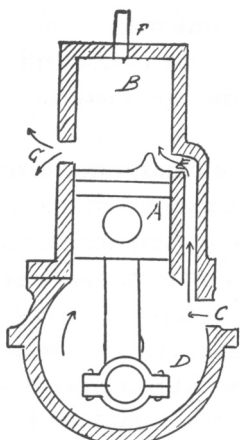
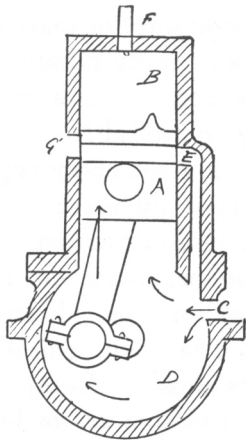
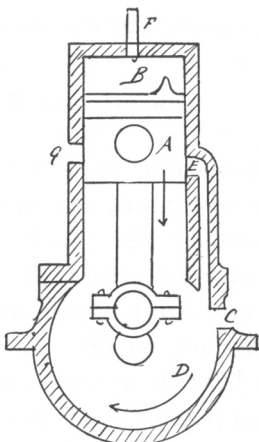

Fig. 1
Fig. 2
Fig. 4
It is a very simple, easily understood form, with few parts, and by referring to Figs. 1, 2, 3, 4, you can readily understand just how the motor operates.
Fig. 1 represents the motor in section, with the piston (A) at the bottom or end of its stroke. As the crank revolves and the piston (A) travels upward in the cylinder (B) a charge of gasoline and air is sucked in from the carburetor through the opening (C) and fills the crank-case (D), from which it cannot escape, as the only opening is the port (E) which is covered by the piston, as shown in Fig. 2.
upward stroke, closing the port (E) and compressing the charge of gas in the upper part of the cylinder until in the position shown in Fig. 4. At this point an electric spark is produced at the spark-plug (F), which ignites the charge and drives the piston down. As the piston passes the exhaust-port (G) the burning and expanded gas rushes out through the opening to the air, and at the same time, or a moment later, another charge of fresh gas rushes up from the base to fill the empty cylinder, as indicated by the arrows in Fig. 1.